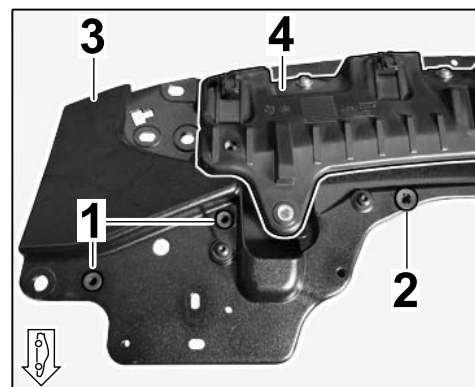

Figure 7
- 3.1.6 Convert rubber mounting, left/right (2 ea.) for pins on engine compartment trim at the left/right (right side: ⇒ *Figure 7*).
Convert two rubber mountings at the centre for pins on engine-compartment blower (right side: ⇒ *Figure 7*).